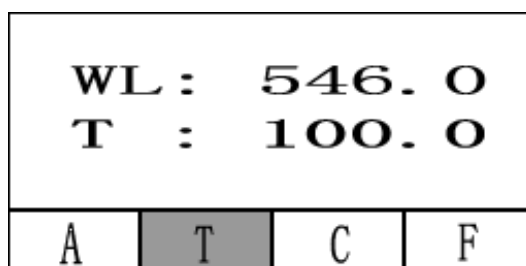

Fig. 4-3
Step 1, Choose "T" by up and down key. (Fig. 4-3)